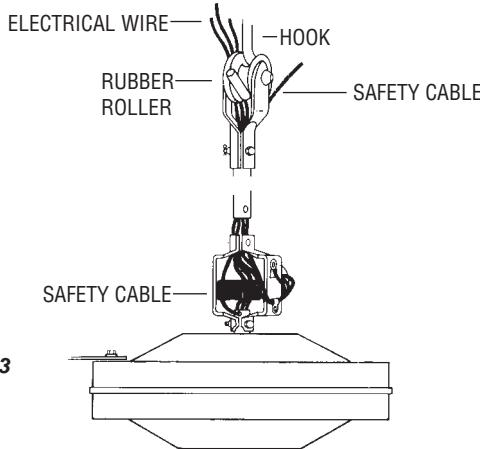

Figure 3
5. This fan is equipped with the required "secondary support" cable. This cable must be affixed to the beam structure and securely clamped in such a manner to support the weight of the fan in the event the mounting hook or other parts fail. After wrapping cable around a structural member that will support 300 lbs., secure cable with supplied cable clamps as illustrated in Figure 3. (NOTE: Any additional materials needed for specific installations may be purchased from your local distributor.)